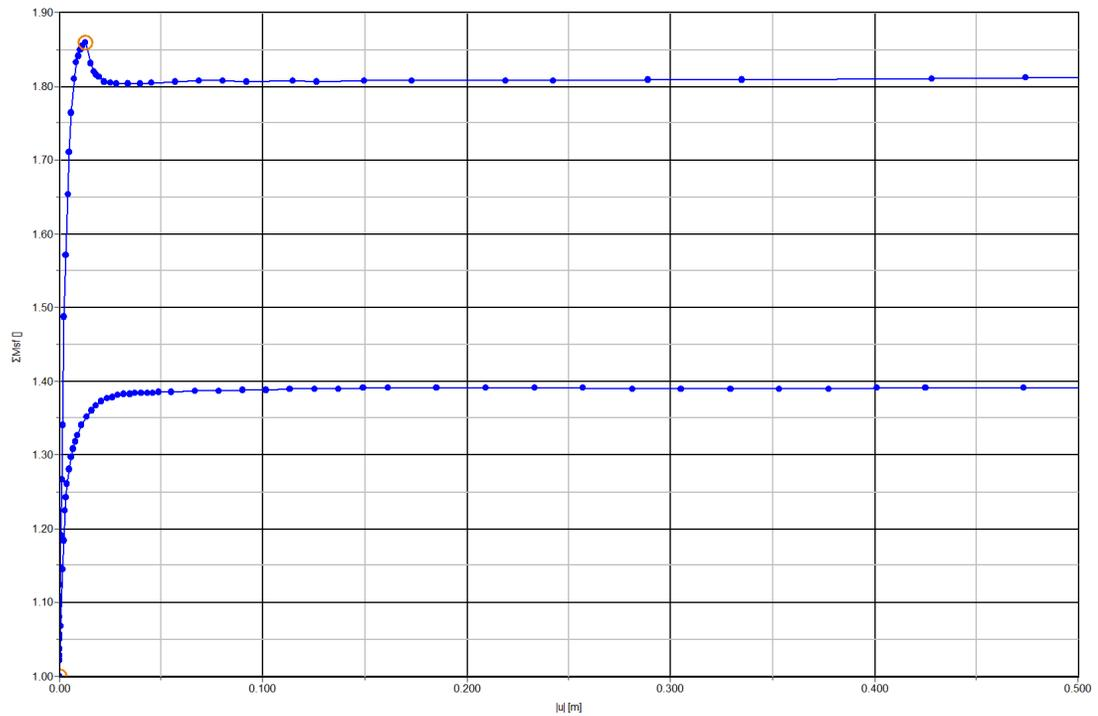

Figure 41: Evaluation of safety factor
12. Click **Apply** to update the chart according to the changes made and click **OK** to close the **Settings** window. The plot is shown as follows in Figure 41 (on page 51):